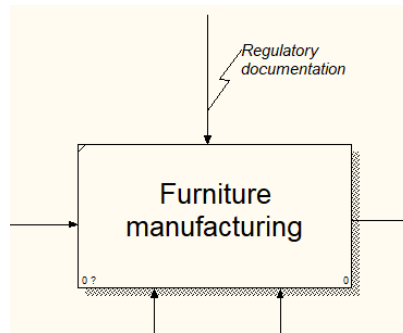

Fig. 1.18. Adding a squiggle
2. Click the left mouse button on text and then on the arrow (fig. 1.18);